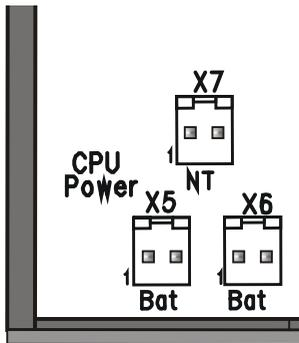

Fig. 23
7. Choose the free **CPU Power** connection on the board to connect to the new battery (Fig. 23: X5 or X6). Place the new battery onto the base of one of the three locations provided for it (Pos. 5).